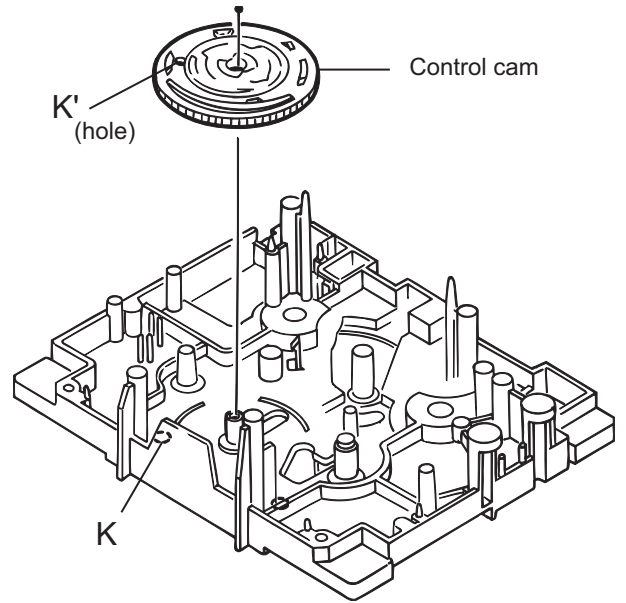
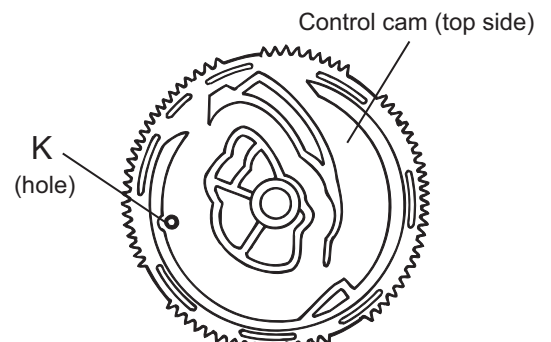

Fig.15
Fig.17
**(See Fig. 15 to Fig. 17)**
- (1) Shift to left side (forward direction) the head mount assembly, hole **K'** of control cam into the hollow **K** of the mechanism sub assembly.